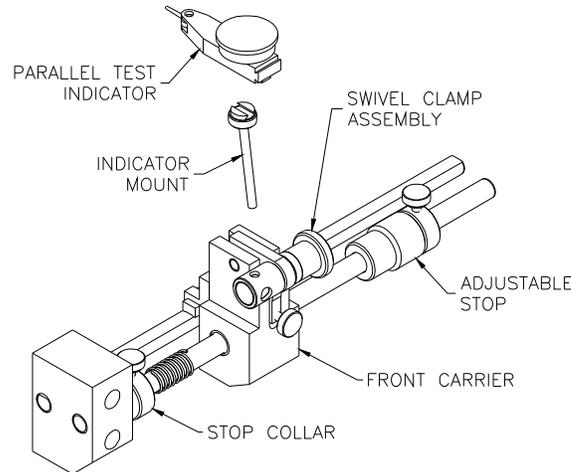

Figure 7. Front Carrier Assembly
5.1 Indicator Carriers – (See Figures 7)